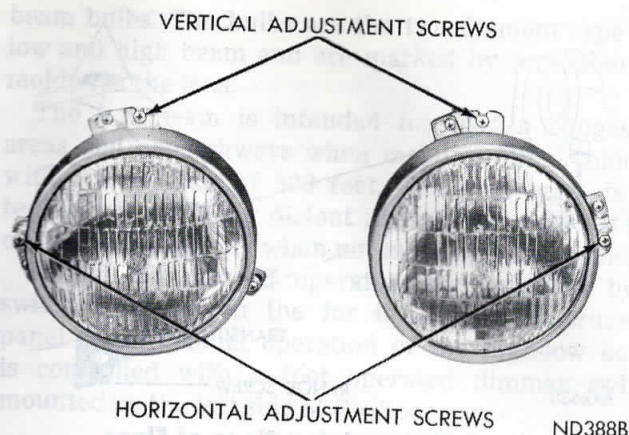

Fig. 5—Headlight Adjusting Points
(1) With pointer of **RIGHT-LEFT** scale still set **2-RIGHT**, sight through aimer viewing port.
(2) While sighting through viewing port of aimer, turn horizontal adjusting screw on headlight until split target image line merges into one unbroken line. To remove backlash, be sure to make a final adjustment by turning headlight horizontal adjusting screw in a clockwise direction, (Fig. 5).
(3) Make horizontal adjustment on other side of vehicle in same manner.